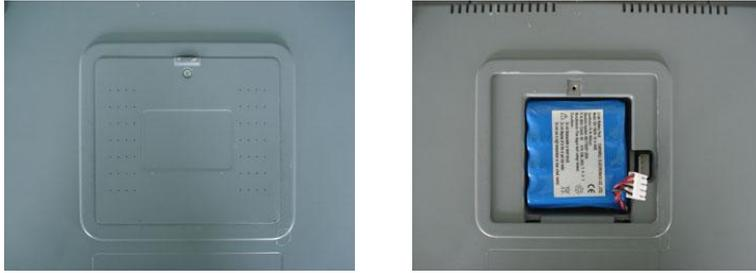

Figure 8-1 Battery Installation
- ◆ The battery is put into the battery compartment without connecting to the battery socket at factory. After receiving the ECG machine, if built-in rechargeable battery is to be used, connect the battery to the socket first. See Figure 8-1 for installation: